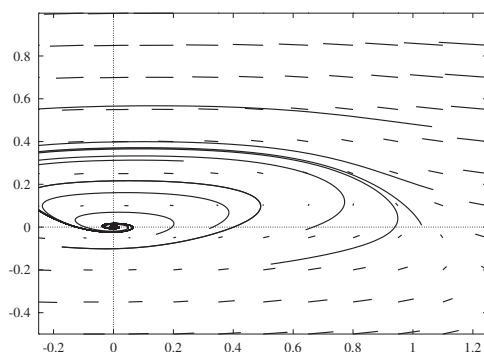

Figure 2.9. Direction fields and some trajectories for the Fitzhugh–Nagumo equations.
The phase-plane is divided into a grid and at each point (x, y) in the grid, a vector is drawn with (x, y) as the base and $(x + sf(x, y), y + sg(x, y))$ as the terminal point, where s is a scaling factor. This so-called direction field gives you a hint about how trajectories move around in the plane. *XPPAUT* lets you quickly draw the direction field of a system. Click on `Dir.field/flow` (D)irect Field (**D D**) and then accept the default of 10 for the grid size by clicking Enter. A bunch of vectors will be drawn on the screen, mainly horizontal. They are horizontal because ϵ is small, which implies that there is little change in the w variable. The length of the vectors is proportional to the magnitude of the flow at each point. At the head of each vector is a little bead. If you want to have scaled direction fields which don't take into account the magnitude of the vector field, just click on `Dir.fld` (S)caled Dir.Fld (**D S**) and use the default grid size. (I prefer pure direction fields, but this is a matter of taste.) Click on `Initialconds m(I)ce` to try several different trajectories. Note how the vectors from the direction field are tangent to the trajectories. See Figure 2.9.